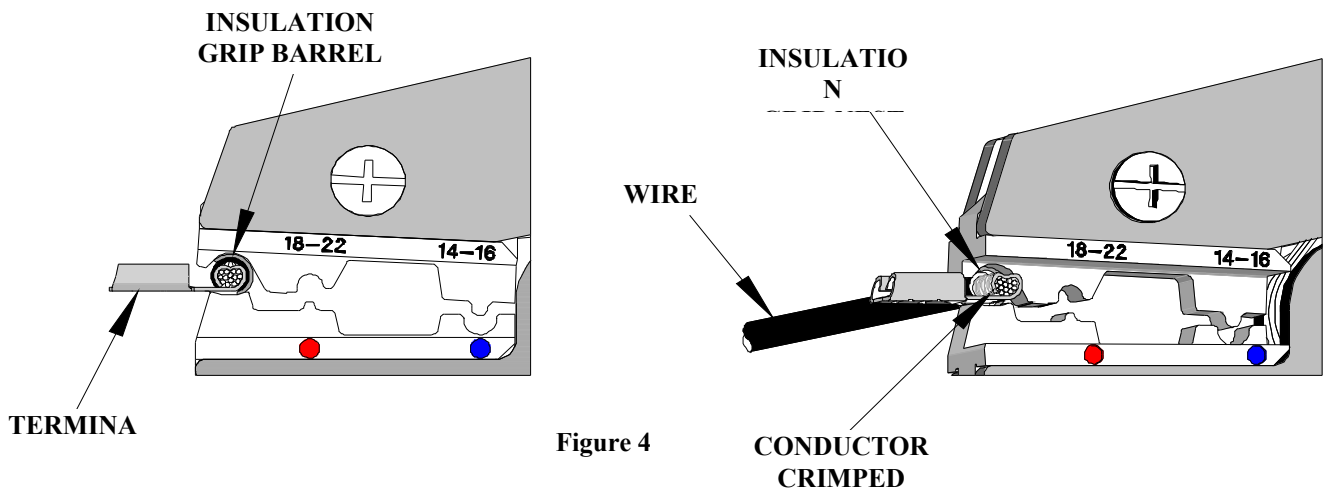

Figure 4
1. After the conductor barrel crimp has been crimped, load the terminal with the wire into the insulation grip nest, as shown in Figure 4. Make sure the wire is positioned from the opposite side. See Figure 4.
3. Make certain all pins; pivot points and bearing surfaces are protected with a thin coat of high quality machine oil. Do not oil excessively. This hand tool was engineered for durability, but like any fine piece of equipment, it needs cleaning and lubrication for a maximum service life of trouble-free crimping. A light oil, such as 30 weight automotive oil used at the oil points shown in Figure 4, every 5,000 crimps or 3 months will significantly enhance the tool life and ensure a stable calibration.